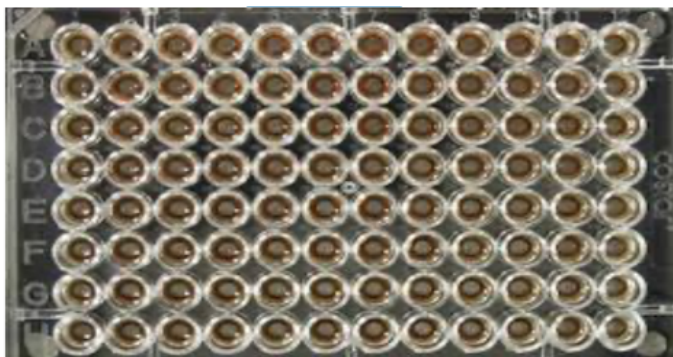

Figure 5: Extraction Plate during wash step on magnetic plate.
k) After the 5 minute incubation, remove as much of the 400µL of the supernatant as possible. Be careful not to disturb or aspirate the beads. See Figure 5.
(1) Add 400µL of 70% ethanol (EtOH) with the Extraction Plate still on the magnet plate.
(2) Wait at least 30 seconds and remove all the EtOH.